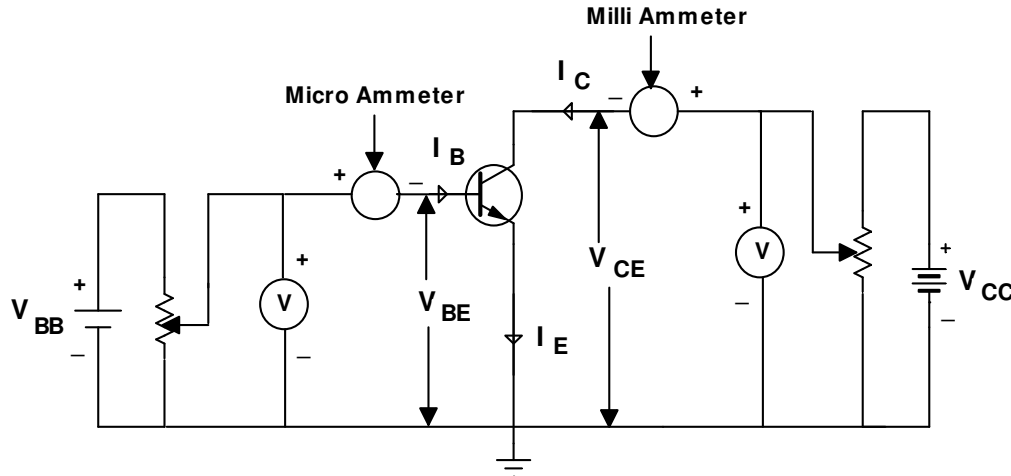

Fig. 32(a)
**Q.32 Draw the circuits to obtain the input and output characteristics of an NPN transistor in CE configuration. Marks (10)**
**Ans: Characteristics of NPN Transistor in Common-Emitter configuration:** To determine the characteristics of a NPN transistor in CE configuration, the circuit arrangement as shown in fig. 32(a)